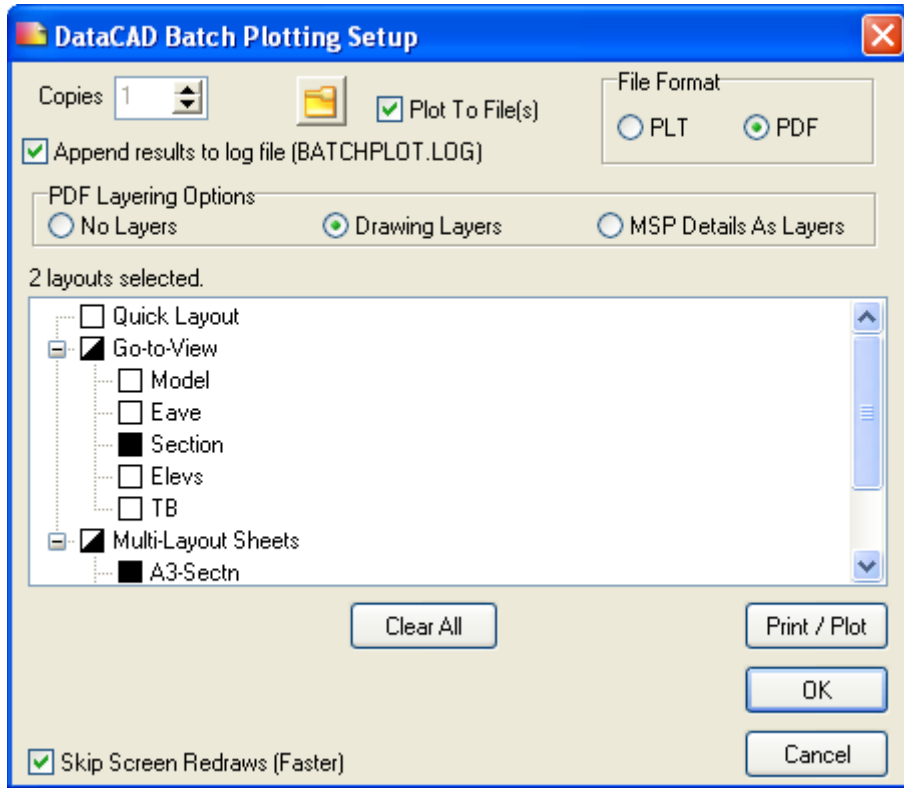

Figure 19.7: The Batch Plotting Setup dialog box
1. Check Plot to File(s) in the Batch Plotting Setup dialog box (see Figure19.7).